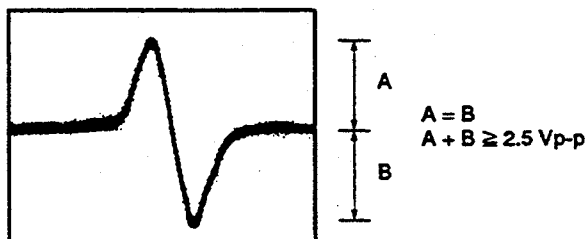

Fig. 6-14
3. While watching the oscilloscope screen, press the PROGRAM key and observe the wave form in Fig. 6-14 for a moment. Verify that the amplitude is at least 2.5 Vp-p and that the positive and negative amplitude are about equal. Since the wave form is only output for a moment when the PROGRAM key is pressed, press this key over and over until you have checked the wave form.